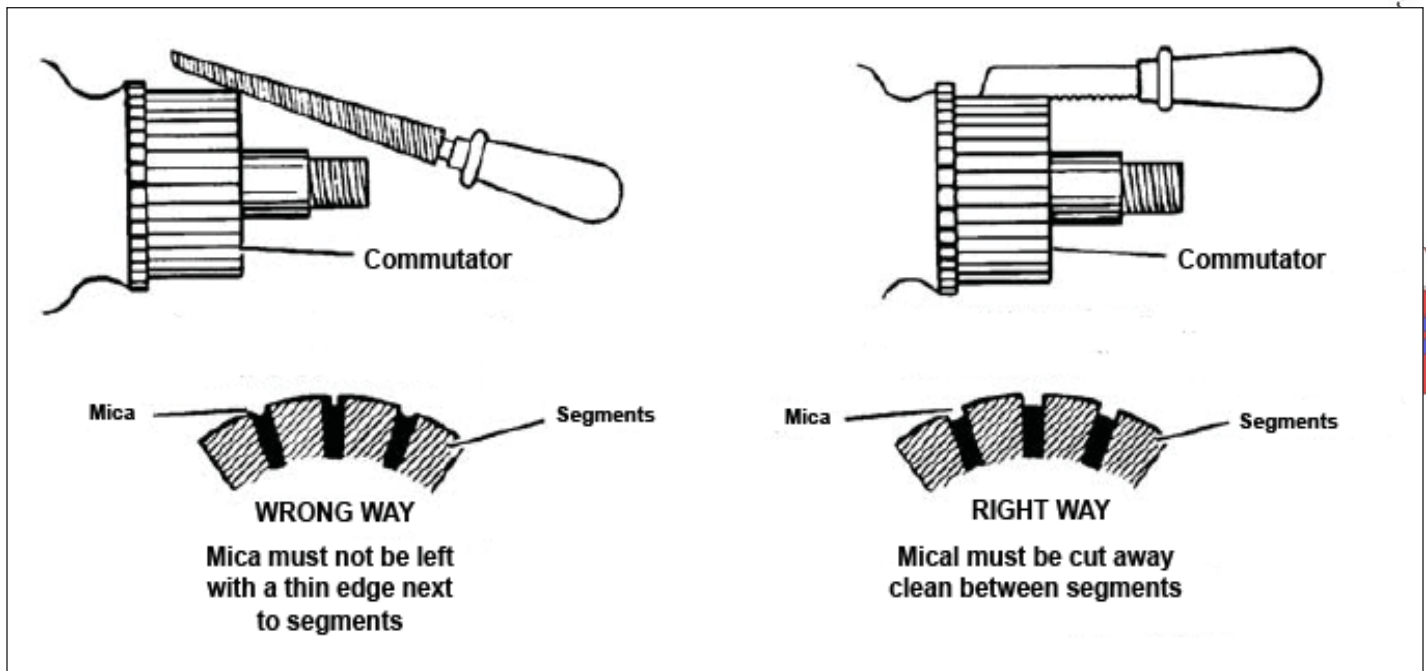

Figure 10-10. Undercutting the Armature
- Support the armature at both bearing journals. Check run-out of commutator with a dial indicator . Total indicated run-out should not exceed 0.005" (0.12 mm). If the readings fall outside this limit, commutator must be turned and undercut. Figure 10-10.